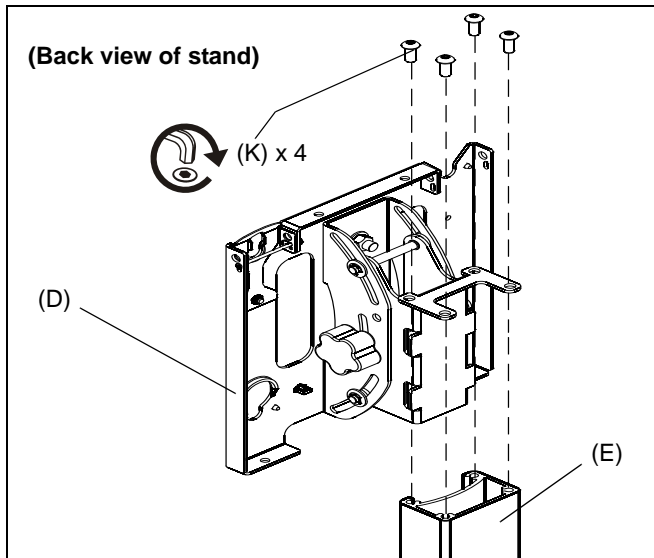

Figure 5
1. Attach head assembly (D) to the stand assembly using four 5/16-18 x 3/4" button head cap screws (K). (See Figure 5)